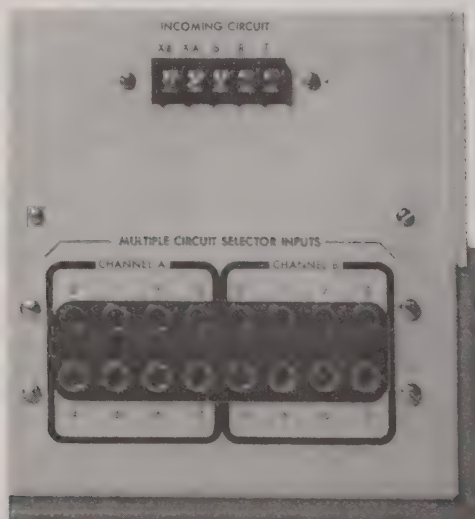

Fig. 3—Telephone Line Connectors
2.10 As shown in Fig. 3, up to 16 telephone lines can be connected to the Model 41-3A's rear panel. Telephone lines can be either 600 or 900 ohm, wet-loop type, T/R or T/R/S circuits, connected via standard 310 type jacks.
2.13 When the Model 41-3A's internal test line is used, an incoming circuit must connect to the rear panel INCOMING CIRCUIT terminals (see Fig. 3). These connections can be: (a) T/R/S, (b) T/R only, or (c) S only.